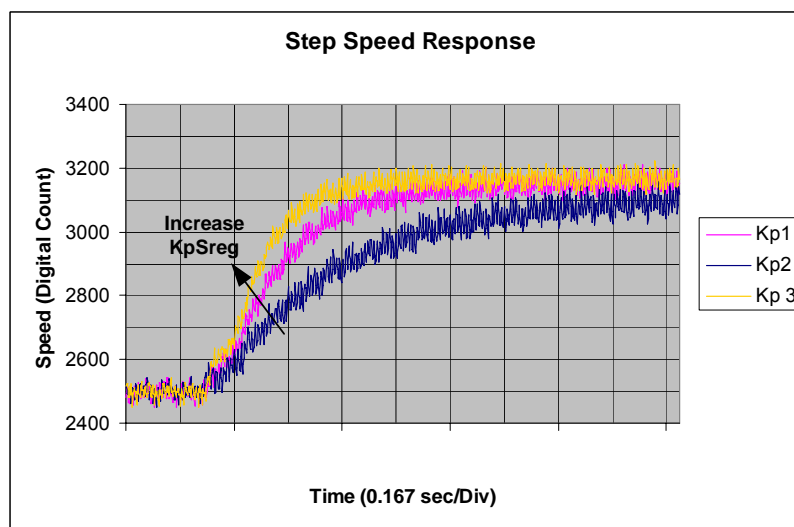

Figure 23—Step Speed Response under Different KpSreg Gains
- 1) **Tuning of KpSreg.** Run the drive at a convenient speed; say 30% of the rated rpm. Perform a small step speed change (step size of 5 - 10% of rated speed) with **KxSreg set to zero**. The step response can be achieved by setting a fast speed ramp in the MCEWizard. Under such conditions, the first order speed response is expected as shown in Figure 23. This figure shows the speed responses using 3 different proportional gains (KpSreg = Kp1, Kp2, Kp3).